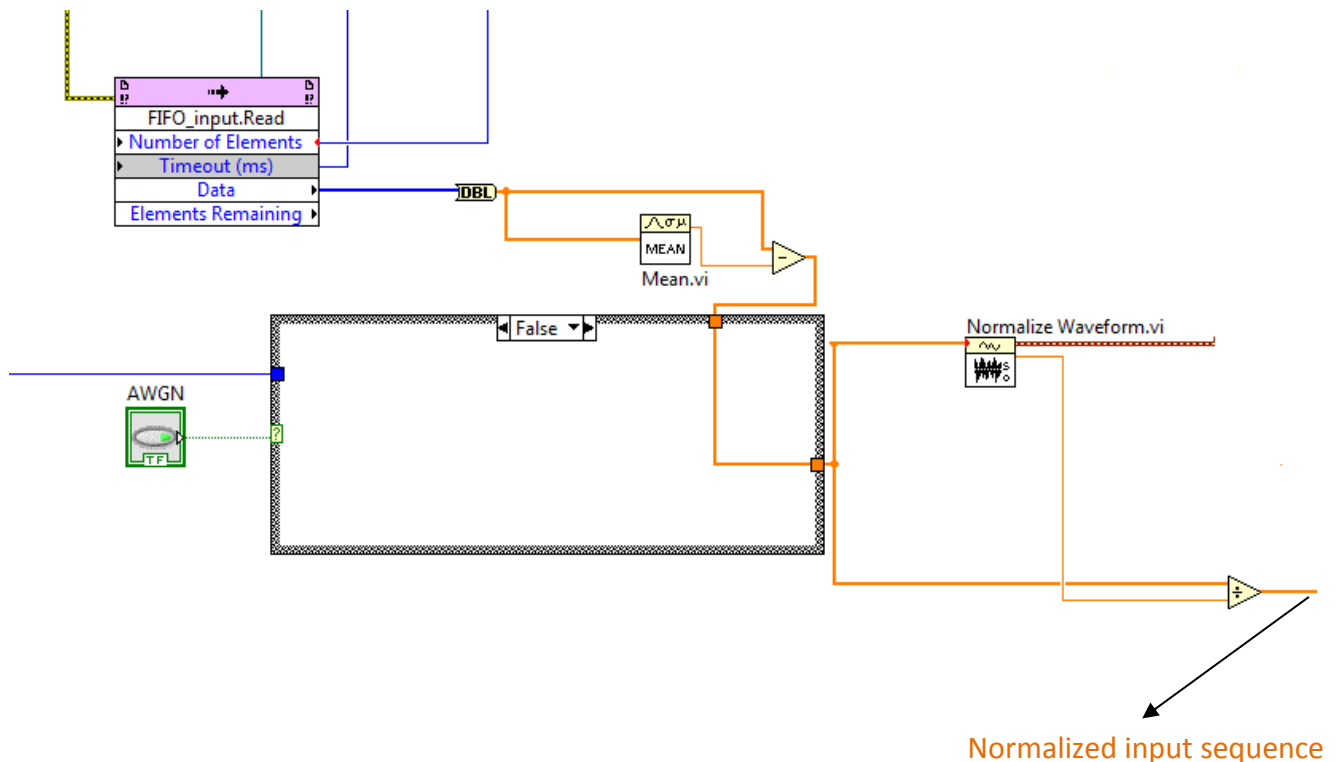

Fig. 10. Normalized Input Sequence.
- Note that the normalized input sequence in Fig. 9 is obtained as shown in Fig. 10.